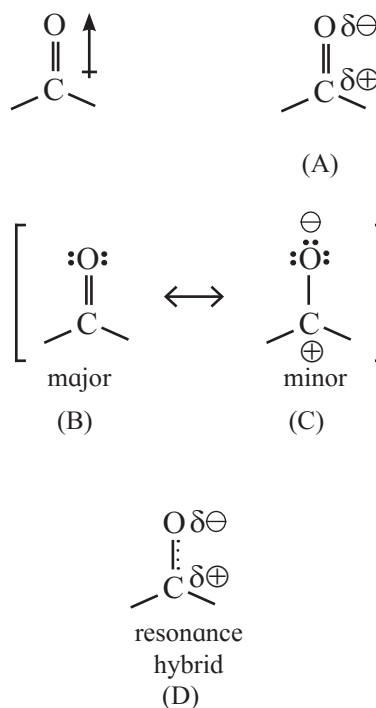

Fig. 12.4 : Polarity of carbonyl group
12.7 Polarity of carbonyl group : The polarity of a carbonyl group originates from higher electronegativity of oxygen relative to carbon as well as resonance effects as shown in Fig. 12.4.